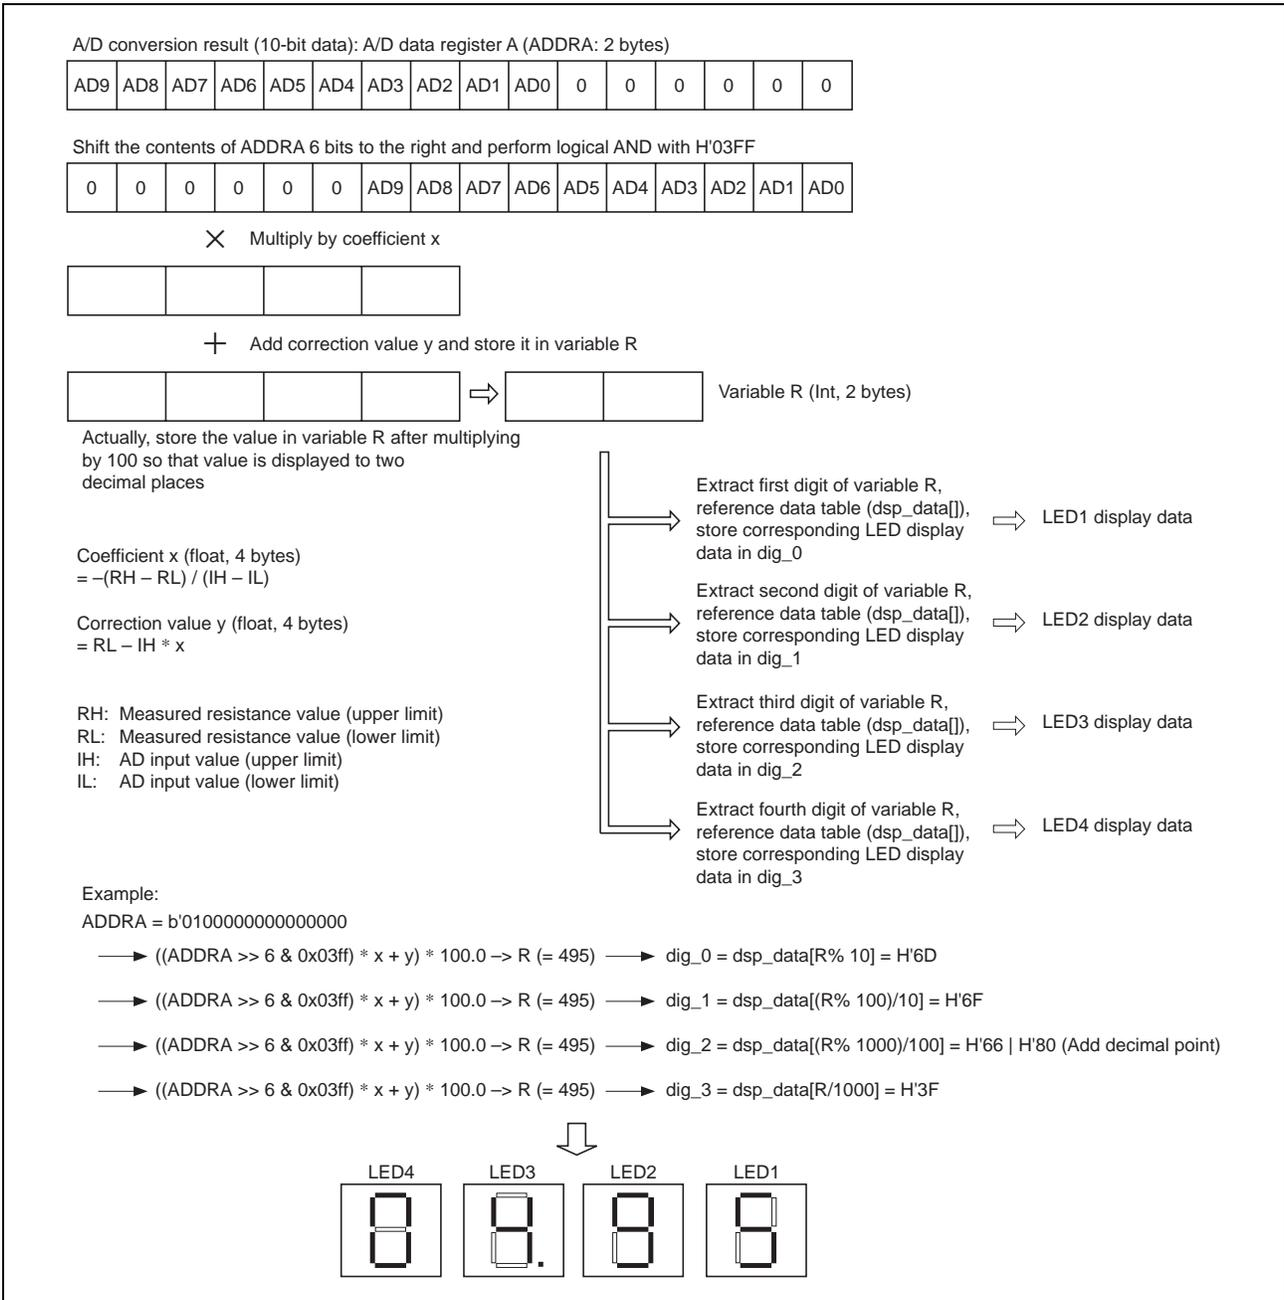

Figure 3 LED Display for A/D Conversion Result
(8) In this sample task the A/D conversion result is displayed using the 7-segment LEDs as a decimal number (00.00–99.99). The LED display for the A/D conversion result is shown in figure 3.